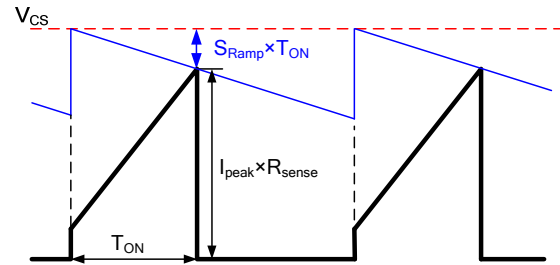

Figure 8: Peak Current Control Waveform with Slope Compensation
Figure 8 shows the peak current control waveform with slope compensation. When the sum of the sense resistor voltage and the slope compensation voltage reaches the peak current limit (V_{CS}), the HF920A turns off the internal MOSFET. The V_{CS} equals the maximum current set point (V_{CSL}) under full load, considering the margin; use $0.95 \times V_{CSL}$ for designing. The voltage on the sense resistor is given using Equation (13):